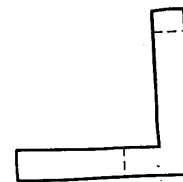

FIGURE 7.54 ■ Sketch the front view.
- Step 1. Select the front view using the rules discussed in this chapter. Sketch the front view that you have picked. Try to keep your sketch proportional to the actual object, as in Figure 7.54. However, keep in mind that a sketch does not have to be perfect. It should be done quickly to save time, while helping you lay out the drawing.